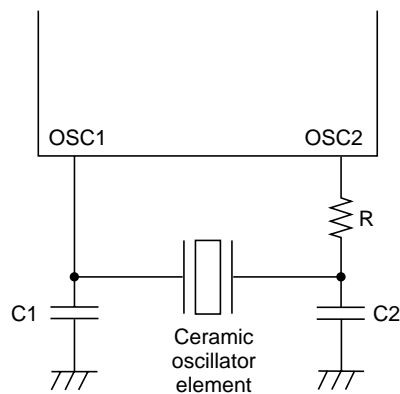

Figure 3 Ceramic Oscillator Circuit
1. Voltages up to the generated oscillation amplitude are allowed with internal drive using the oscillator circuit of figure 3 and the recommended circuit constants.